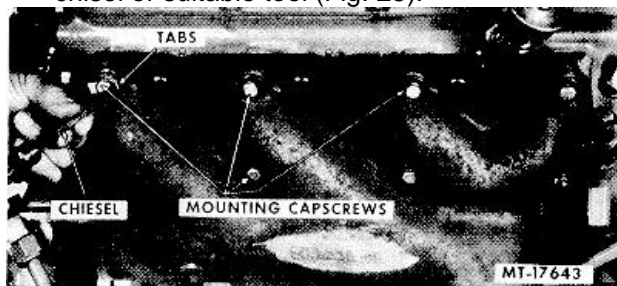

Fig. 25
23. Relieve tabs on left exhaust manifold using chisel or suitable tool (Fig. 25).